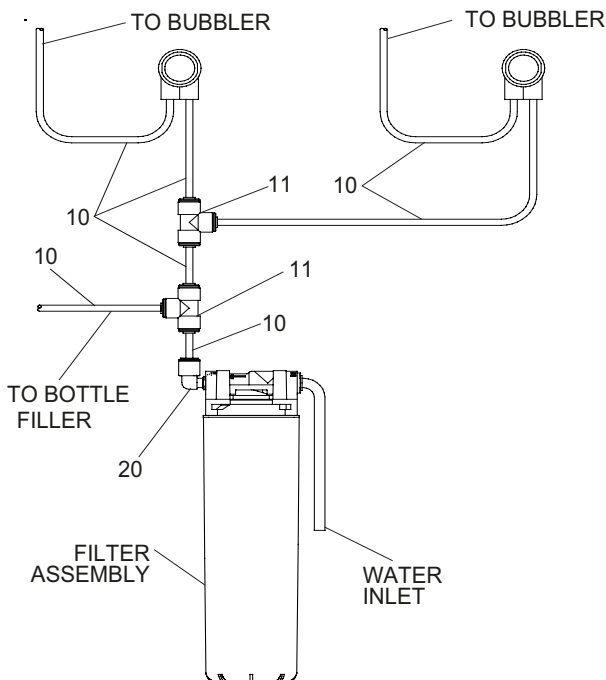

Figure 5 - Tube Routing Filtered
4. **For Filtered versions** - Install the filter head, 1/4 X 1/4 X 3/8" tee (Fig. 5).